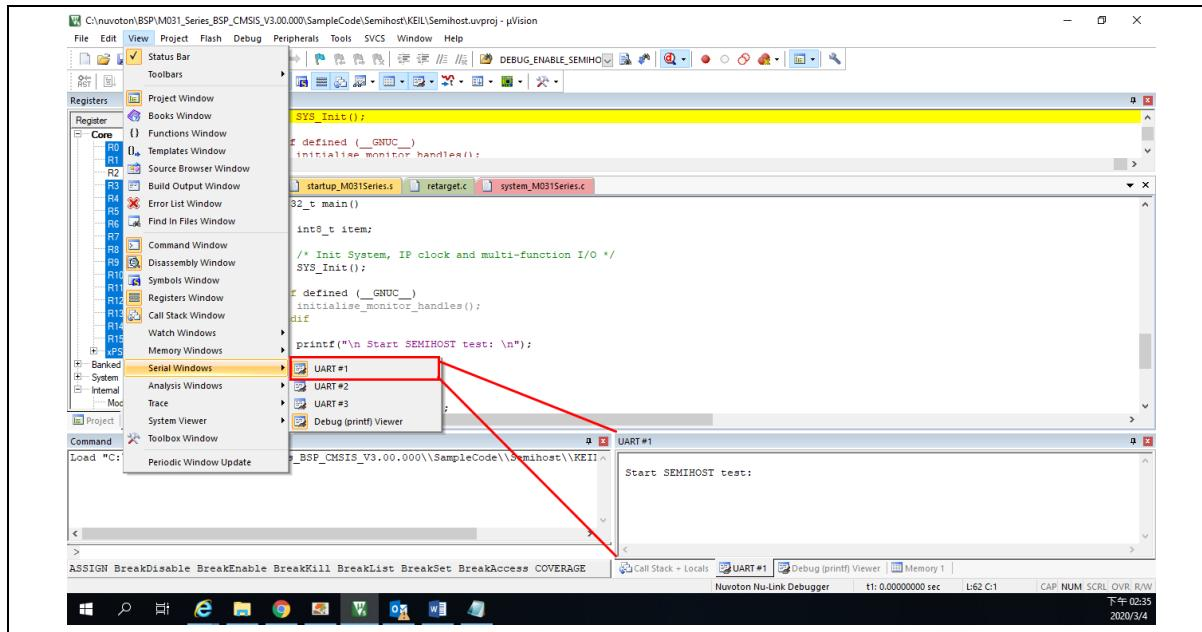

Figure 4.1-4 Semihost Options in Keil MDK Debug Mode
When using the Semihost function, the message of the NuMicro® Family microcontroller can be output through UART to the debug window by the Nu-Link2-Pro. That is, the message is output without the GPIO. Figure 4.1-4 shows the debug messages in the “UART #1” form, which are the messages output by the Nu-Link2-Pro.
**Step 3:** In Debug mode, invoke **View → Serial Windows → UART #1**, as shown in Figure 4.1-4.